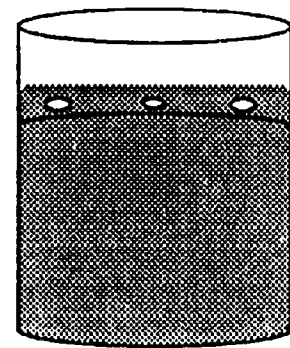

Figure 2. Place seeds on top of soil and cover with loose soil.
4. Place seeds (of same type) on top of soil in each container. Cover them with enough loose soil to meet the desired planting depth (see Figure 2).